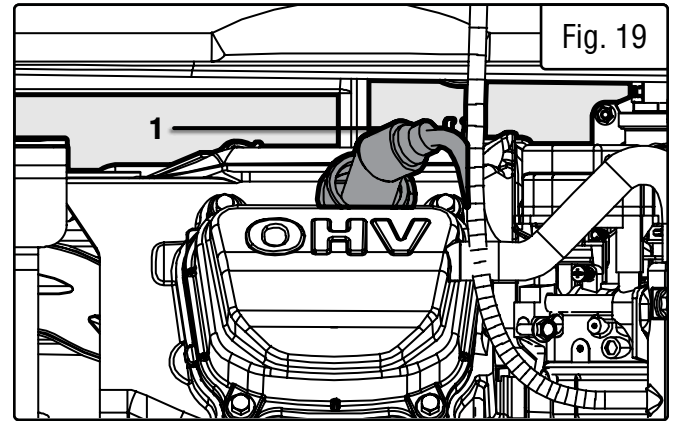

Fig. 19
1. Pull on the spark plug boot to remove it (Fig. 19 - 1). Be careful not to tear insulation or wire.